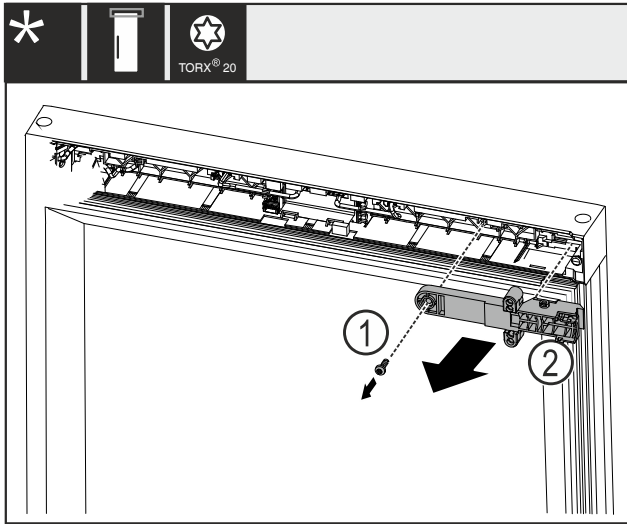

Fig. 21
- ▶ Remove the screw Fig. 21 (1).
- ▶ Remove the lock retainer Fig. 21 (2).